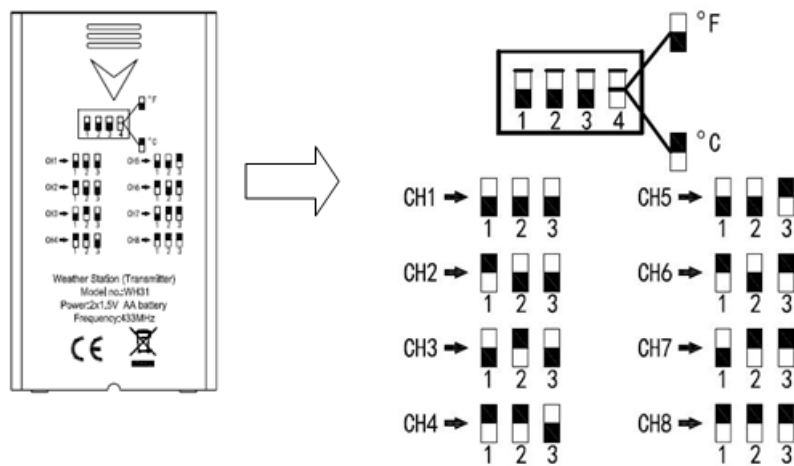

Figure 7
3. Channel Number: The GATEWAY supports up to eight transmitters. To set each channel number (the default is Channel 1), change Dip Switches 1, 2 and 3, as referenced in Figure 7.
4. Temperature Units of Measure: To change the transmitter display units of measure (°F vs. °C), change Dip Switch 4, as referenced in Figure 7.